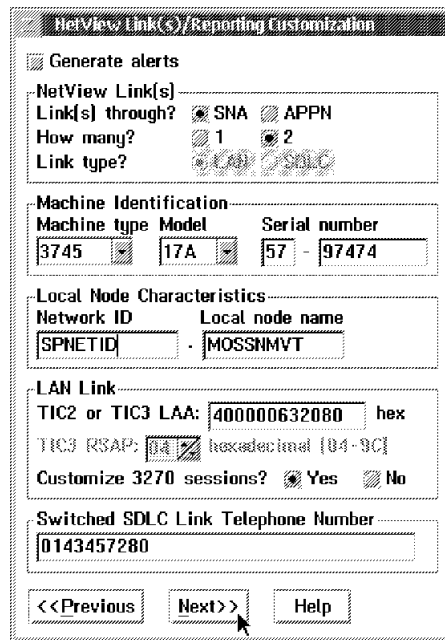

Figure 11-2. NetView Link/Reporting Customization
Local Node Network ID (Figure 11-2 on page 11-3)	Partner network ID (Step 9 on page 11-7) and Network ID (Step 10 on page 11-8)
TIC2 or TIC3 LAA (Figure 11-2 on page 11-3)	LAN Destination address (Step 9 on page 11-7)
TIC3 RSAP (Figure 11-2 on page 11-3)	Remote SAP (Step 9 on page 11-7)
Step 5. Record the values in the **Local Node Network ID**, **TIC2 or TIC3 LAA**, and **TIC3 RSAP** fields (see Figure 11-2 and refer to Table 11-1 on page 11-2). Then click **Next**.